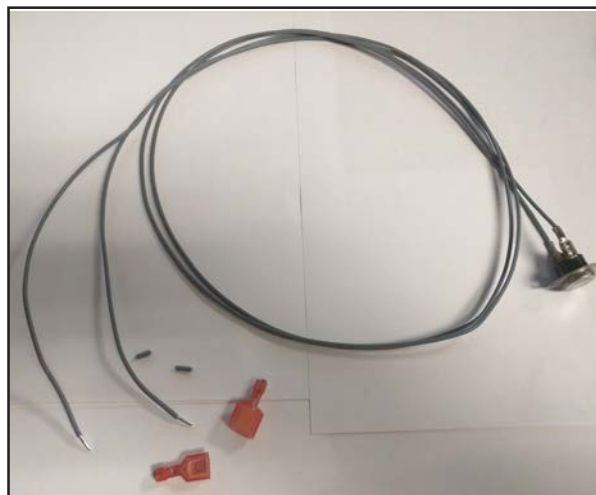

Figure 49: Spill Switch Modification
Step 1: Cut off the connectors from the one end of the wires. Note, the spill switch does not need to be removed from the Drafhhood Adaptor for this modification (Figure 49).